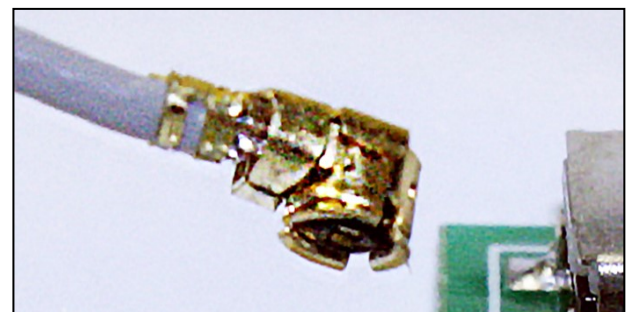
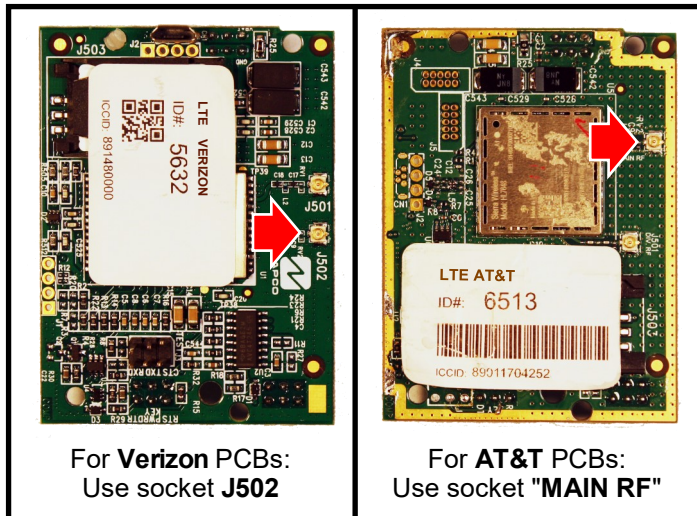

Fig. 4: Antenna Plug
Fig. 5: Verizon and AT&T Antenna Socket Locations
8. **Insert the very small Antenna Plug** located at the end of the Bracket (shown in Fig. 4) into the correct PC board sockets as described in Fig. 5: